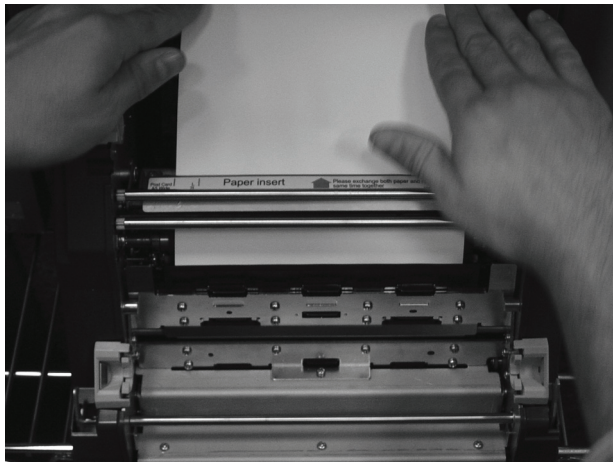

Figure 26. Unthreading the Printer Paper
4. Once the ribbon is removed, gently pull the paper to unwind it from the paper path (see Figure 26).